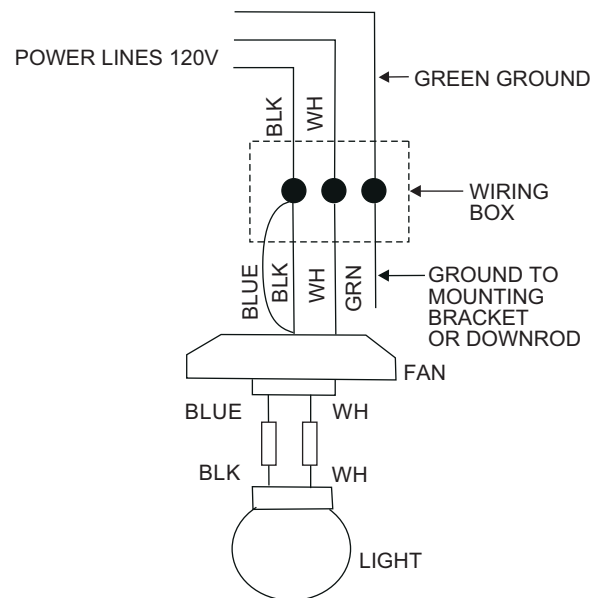

Figure 10
Step 1. Connect the fan supply (black) wire and light supply (blue) wire to the black household supply wire as shown in Figure 10.